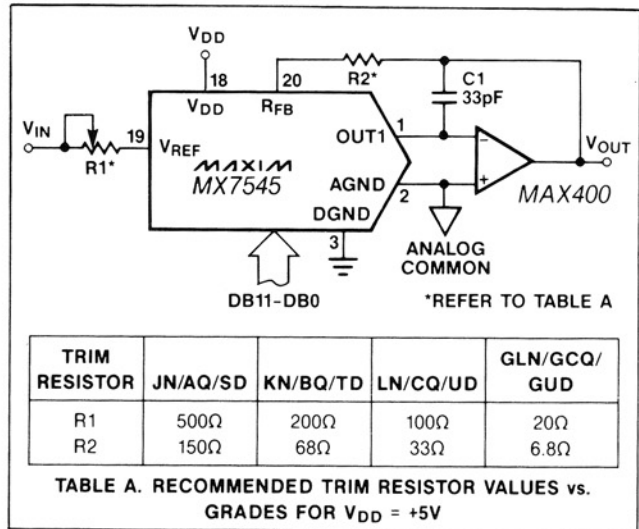
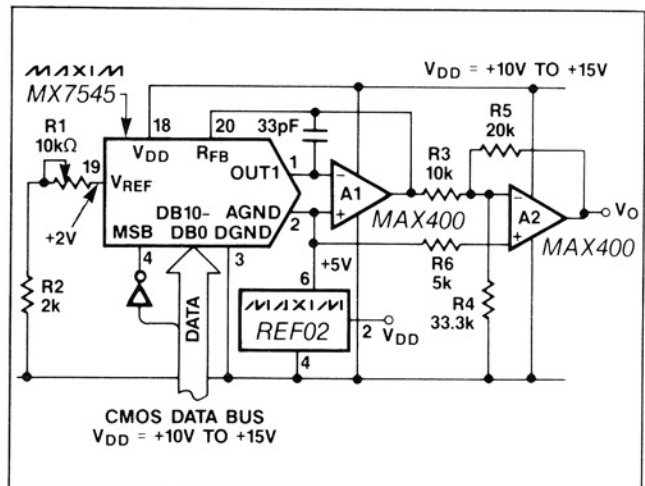

Figure 3. Unipolar Binary Operation
Figure 8. Single Supply "Bipolar" 2's Complement D/A Converter
**Note 1:** Using internal feedback resistor, RFB. DAC register loaded with 1111 1111 1111. Gain error is adjustable using the circuits of Figures 3, 4 and 8.
Either current output can be converted into a voltage externally by adding an output amplifier (Figure 3). The  $V_{REF}$  input accepts a wide range of signals including fixed and time varying voltage or current inputs. If a current source is used for the reference input, then a low temperature coefficient external resistor should be used for  $R_{FB}$  to minimize gain variation with temperature.
The most common configuration for the MX7545 is shown in Figure 3. This circuit is used for unipolar binary operation or two-quadrant multiplication. The
Table 1. Unipolar Binary Code Table for Circuit of Figure 3
In many applications the gain adjustment will not be necessary, especially when using the "G" suffix parts with guaranteed maximum  $\pm 1$  LSB gain errors. In those cases and also when the gain is trimmed at the reference source, resistors R1 and R2 in Figure 3 can be omitted. However, if the trims are desired and the DAC is operated over a wide temperature range, then low tempco ( $<300ppm/^{\circ}C$ ) resistors should be used for R1 and R2.
The unipolar and bipolar circuits in Figures 3 and 4 can all be converted to voltage output mode. For example, Figure 8 shows the 2's complement bipolar circuit of Figure 4 modified to work with an output range of +2V to +8V around an offset ground potential of +5V from a single supply,  $V_{DD}$ , of +10V to 15V. The REF02 reference is used to bias the AGND at +5V. The R1 and R2 resistors form a voltage divider together